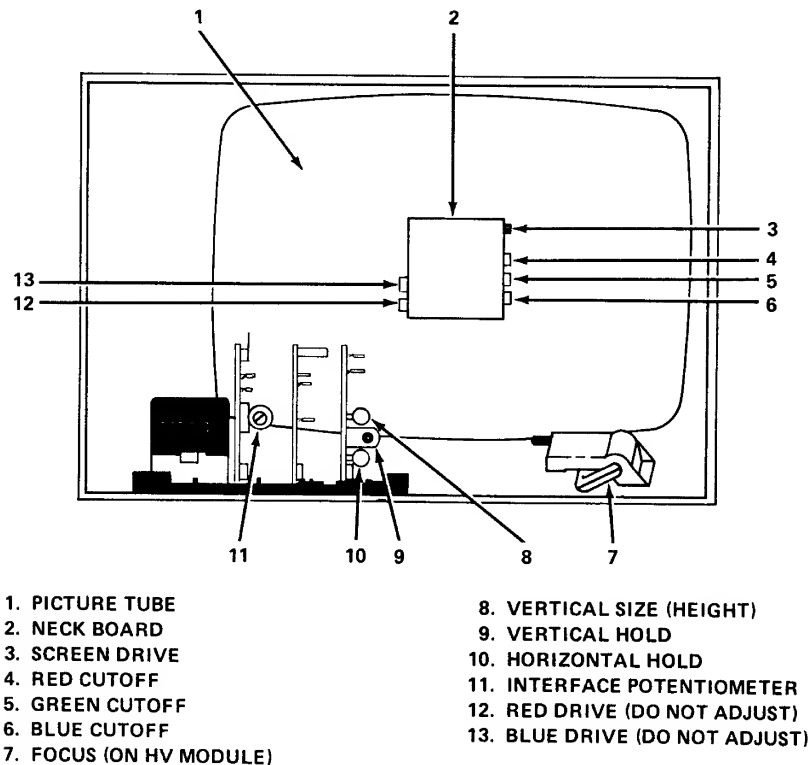

FIGURE 15. TEKNIKA MONITOR, ADJUSTMENTS
diagnostic test (crosshatch pattern) will appear on screen. Adjust the focus and vertical size controls against this pattern (see Figure 15 for control locations). If the monitor needs convergence or linearity adjustment, consult the manufacturer (TEKNIKA ELECTRONICS CORP., Service Center, Gothic Plaza 333 RTE 46, Fairfield NJ 07006 — Phone (201) 575-0380, (800) 221-2106), or contact Exidy Customer Service, 390 Java Drive, Sunnyvale CA 94086.
- d. If the color is weak, or if you can't get eight distinct steps of each color, adjust the color cutoff pots on the neck board (see Figure 15).
- e. As a last resort, adjust the screen drive pot on the neck board (see Figure 15). Use this pot together with the interface pot — when you turn one of them up, you must turn the other down. Note that the screen drive control effects the entire color alignment; if you adjust this control, you will have to begin the color adjustment over again.